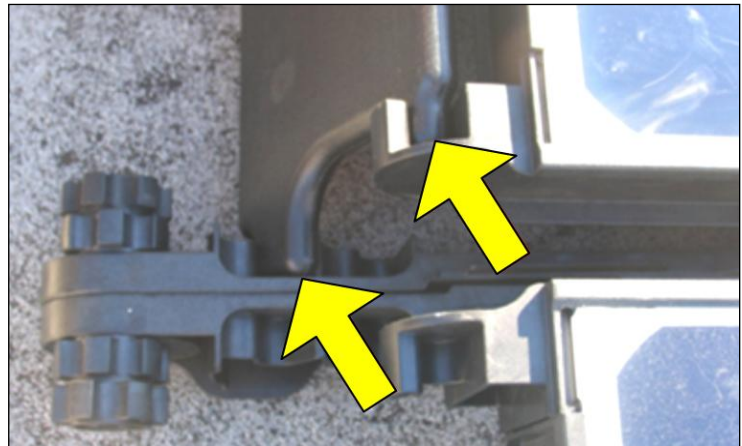

Fig. 68
- As the tabs slip down the tips will simultaneously drop to the bottom of the notches (Fig. 68).
**Note.** Fig. 68 shows a deflector installed in its module's north slot pair, at the 60° angle.